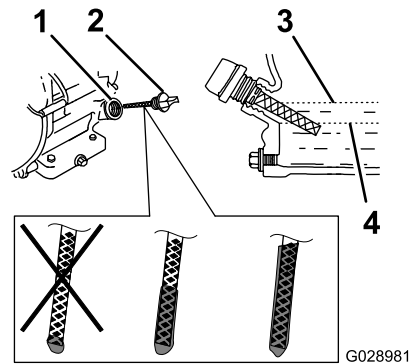

Figure 41
6. Remove the dipstick (Figure 41) and slowly pour oil into the fill hole until the oil reaches the upper-limit mark (bottom edge of the oil-fill hole) on the dipstick.